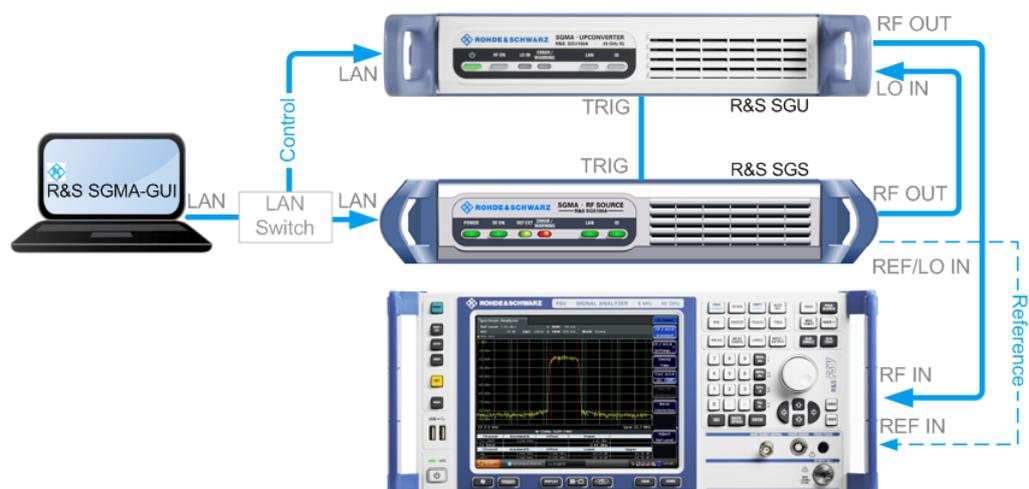

Figure 4-1: Example of a test setup for upconverting a CW signal generated by the R&S SGS
1. Connect the test equipment as shown on Figure 4-1: